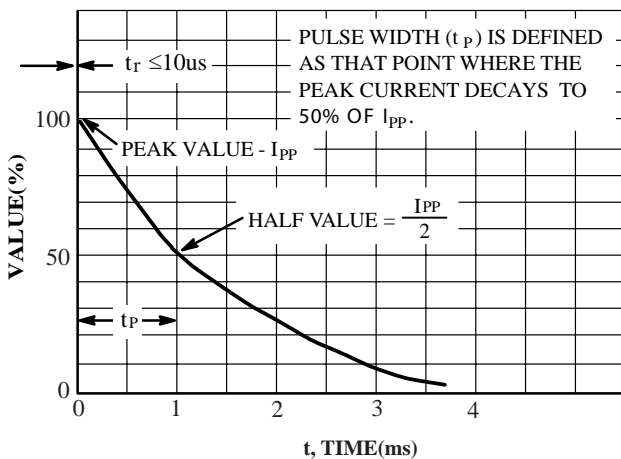
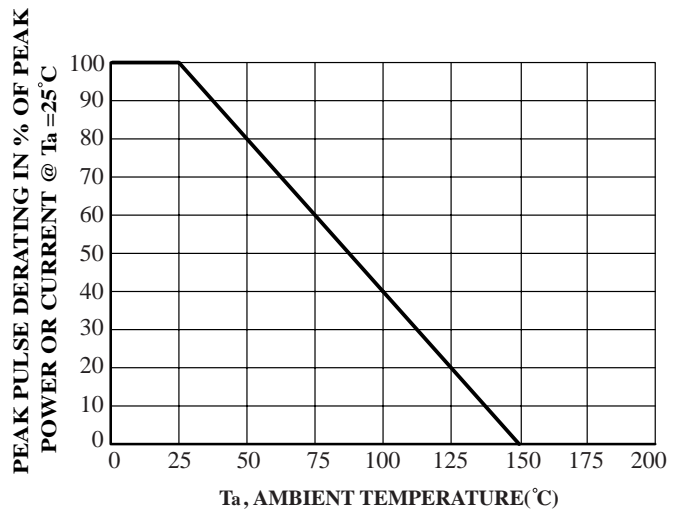

FIG.5 Pulse Waveform
FIG.6 Pulse Derating Curve
NOTE: 1. Non-Repetitive Current Pulse, per FIG 5 and Derated above T_A=25 °C per FIG 6.
- Surge current waveform per Fig 5 and derate per Fig 6